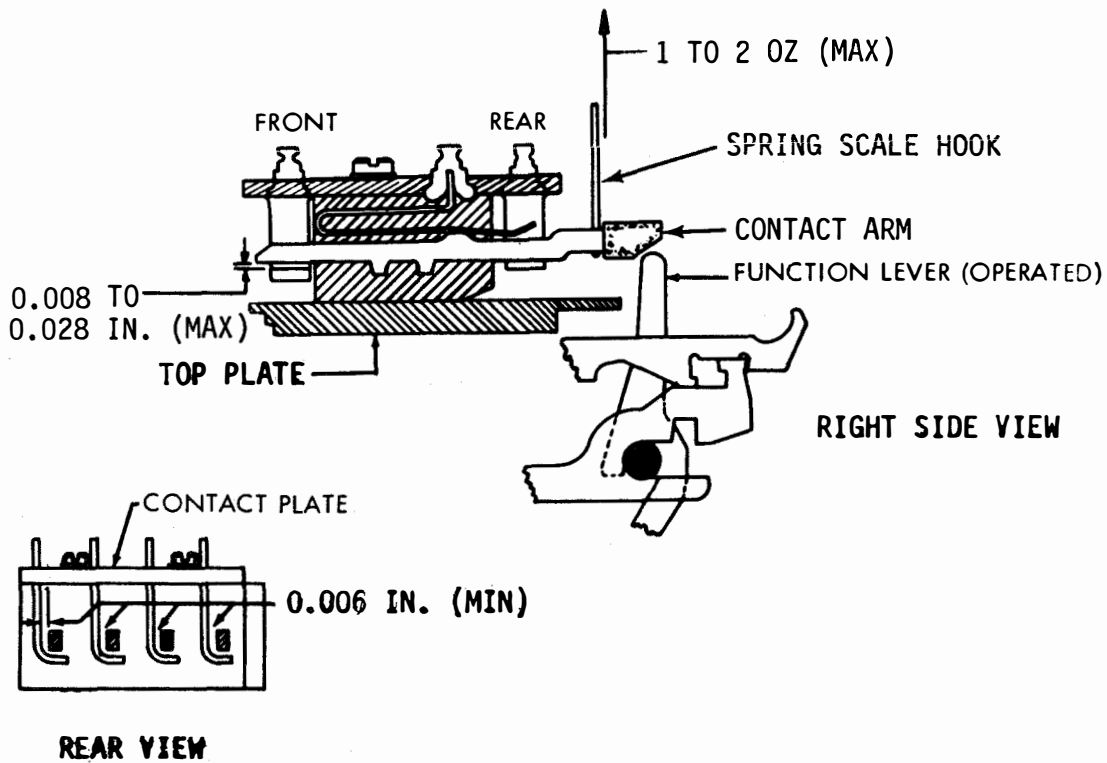

Figure 6-407. Stunt Box Switch Spring
(17) Stunt Box Switch Spring. Adjust as follows:
- Figure 6-407.